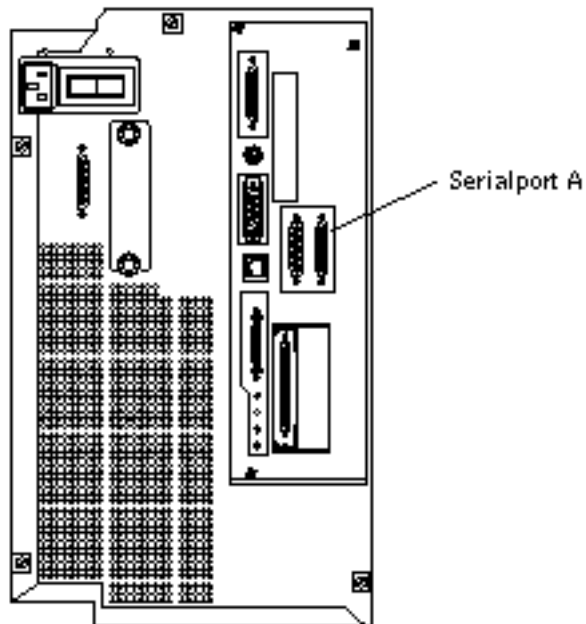

Figure 1-6 Connecting a TTY Terminal to the Netra 150 Server
1. **Connect the terminal cable to serial port A (Figure 1-6).**